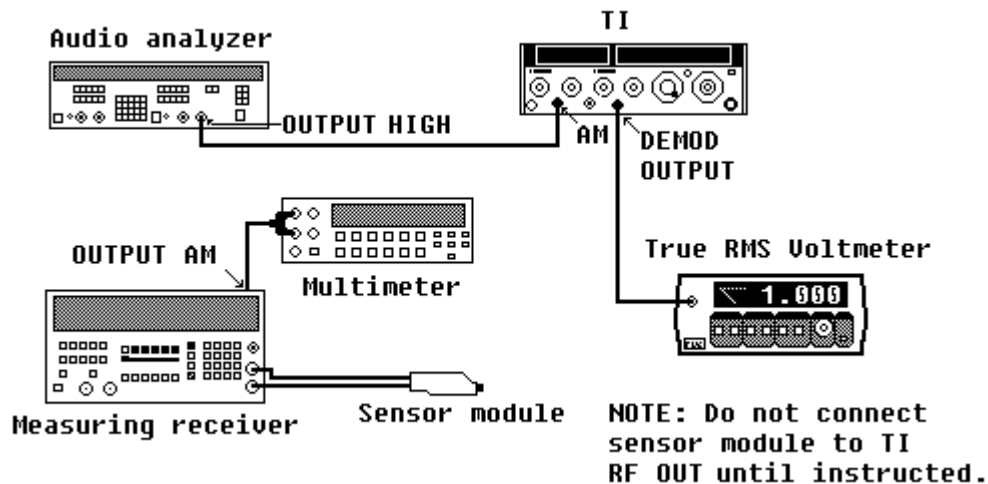

Figure 6. Demodulated output accuracy - test setup.
- (13) Position controls as listed in (a) through (i) below.
- (14) Reduce all outputs to minimum and reconnect equipment as shown in figure 6, leaving **TI RF OUTPUT** disconnected.
(14) Connect equipment as shown in figure 6 except do not connect the true RMS voltmeter.
(15) Set measuring receiver to measure AM with peak + detector. Set high-pass filter to 50 Hz and low-pass filter to 15 kHz.
(16) Press measuring receiver **AUTOMATIC OPERATION** and **FREQ MHz** keys.
(17) Record multimeter dc indication as V_{off} .
(18) Adjust audio analyzer controls for a 120-Hz, 600 Ω , 0.459 V output.
(19) Connect the measuring receiver sensor module to the **TI RF OUT**.
(20) Press **AM X10%** pushbutton and adjust **AM** vernier control fully cw.
(21) Adjust the audio analyzer output for a TI meter indication of 50%. Press **6.2** and **SPCL** keys on measuring receiver.
(22) Record multimeter dc indication as V_{dc} .
(23) Calculate the AC component (V_{ac}) using the formula. Round the calculated value to 3 digits and record as V_{ac} .